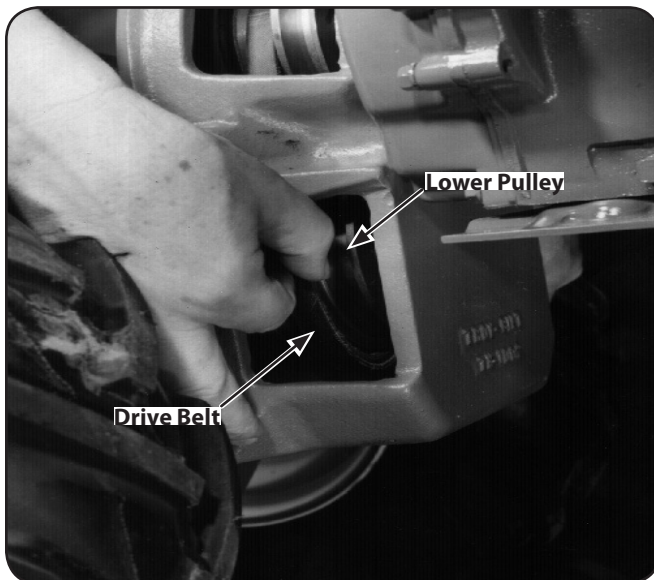

Figure 7-1
3. Use your right hand to move the belt down and away from the lower pulley, in the direction of the engine. See Figure 7-1.